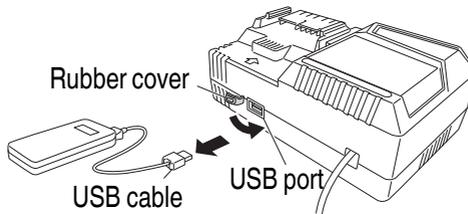

Fig. 15
(3) When charging is completed
- Unplug the power cord from the electrical outlet. (**Fig. 15**)